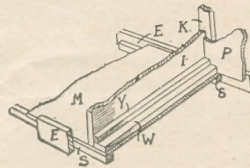
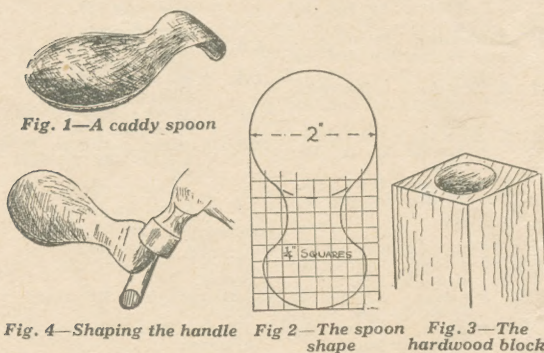

Fig. 2—Cut-away view of centre partition, floor and drawer guides
Fig. 1—A caddy spoon Fig. 2—The spoon shape Fig. 3—The hardwood block Fig. 4—Shaping the handle
The middle floor does not extend right through nor do the ledge pieces themselves. They only extend a portion of the way as shown at Fig. 2.
The front edge of it is covered by an upright rail (K), whilst it is supported on one side by fillet pieces of triangular section. In Fig. 2 can also be seen how the runners and guides for the drawer are made. These are the parts Y and W. The latter is glued to the floor immediately opposite the upright, and Y comes above it.
Let us start our new hobby by making the simple tea caddy spoon as shown in Fig. 1. First, from a piece of 19 gauge copper, cut out the shape with snips as in Fig. 2 and file the edges up true to shape. Now, copper and brass are very hard when bought, so the next job is to anneal or soften the metal. This can be done on the kitchen gas ring or with the blowlamp by making the metal red hot and quenching it into water to cool it. It will now be found to bend any way at will.